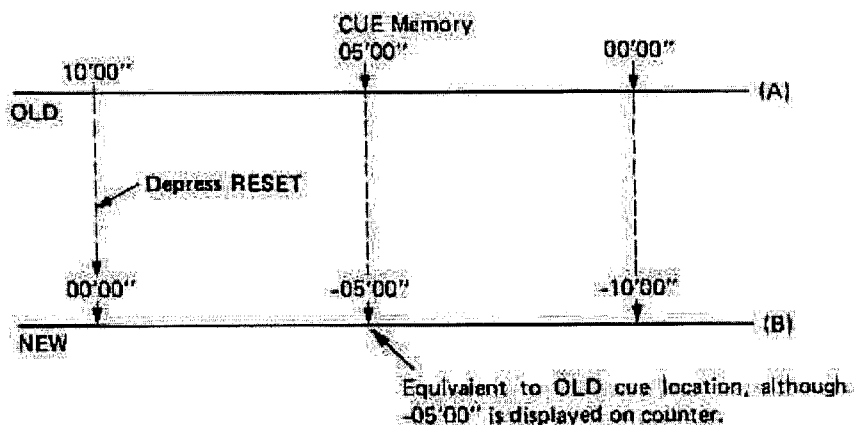

Fig. 8-7-4. Cue Point and Counter Reset
- \* If the CUE button is not pressed in the STC mode, the counter reading of "00:00" is automatically registered as the CUE position. Once the cue point has been registered, it is held until the CUE button is set again, and is not affected by the counter reset button because the relative CUE position is not altered as shown in Fig. 8-7-4 when the counter reading is changed.